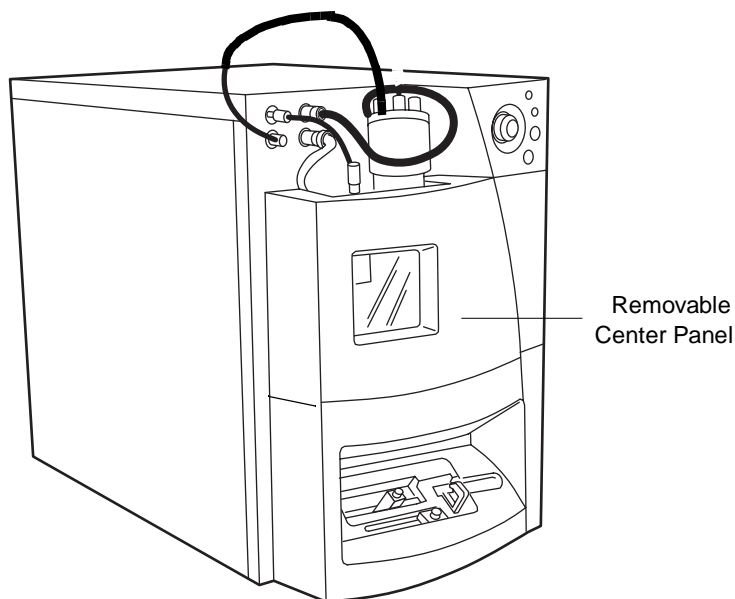

Figure 5-8 ZQ Detector Front View
8. Remove the center panel (Figure 5-8) from the front of the instrument by grasping its sides and pulling it toward you.
11. Refit the center panel (Figure 5-8) on the front of the instrument.
1. Remove the center panel from the front of the detector (Figure 5-8).
3. Disconnect the front panel gas and electrical connections (Figure 5-8).